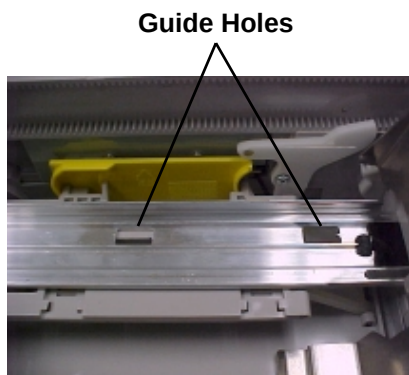

Figure 5
5. Note that the left and right guide-rails each possess two note guide-holes, as shown in Figure 5. Each of the note guide holes provides access to an adjustment scale underneath.